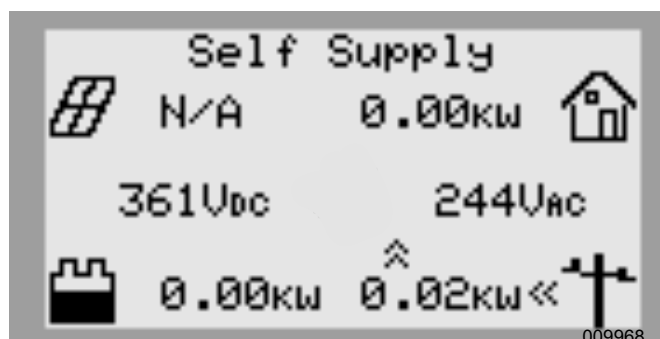

Figure 6-5. Selecting Operational Modes (4 of 4)
- See Figure 6-5. Verify the mode listed at the top of the home screen is the desired mode.